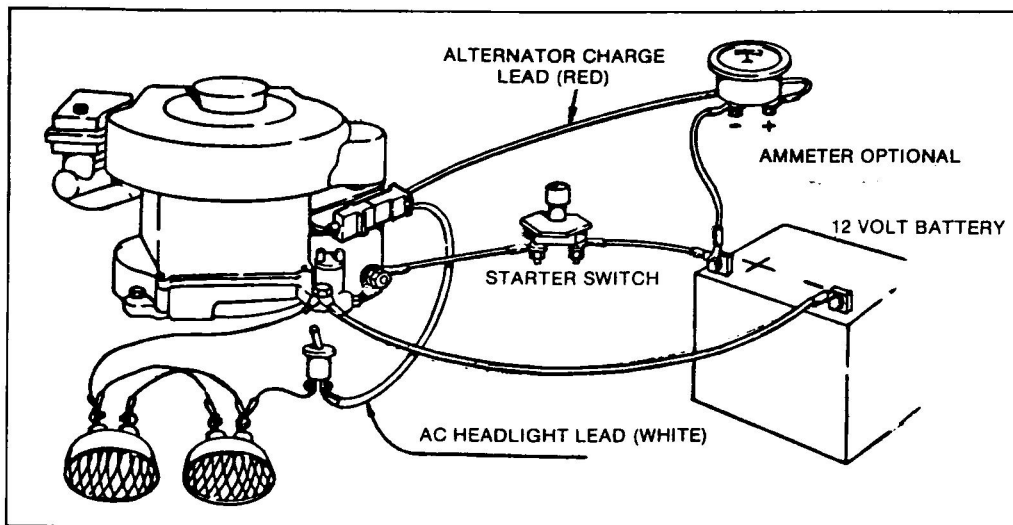

Fig. 10 — Typical Wiring Diagram
- b. If equipment has lights, the wire between the light switch and the battery must be disconnected at the battery end of the wire. Cut off terminal of wire. Cut off white lead of 393362 connector assembly to length required to connect with light wire. Strip both wires and splice. Solder splice and tape with electrical tape. See Fig. 10 for typical wiring diagram.